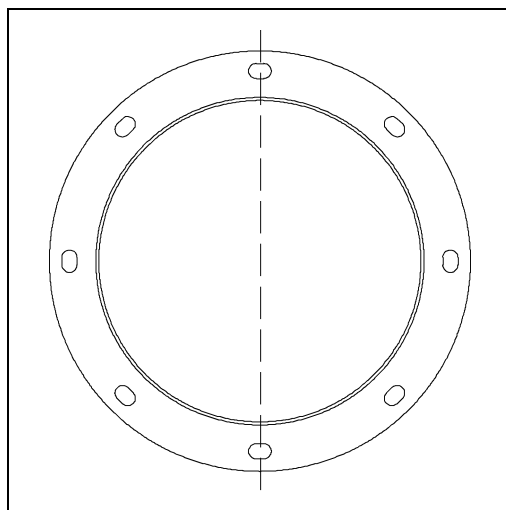

Figure 4C
5. Insert the unload tube through the wall to the center of the bin. Secure the tube in the clamp of the center well using the 5/16" x 1-1/4" bolts and nuts. **NOTE:** For proper mounting of the powerheads, one set of holes in the flange ring must be aligned vertically. (See Figure 4C.)